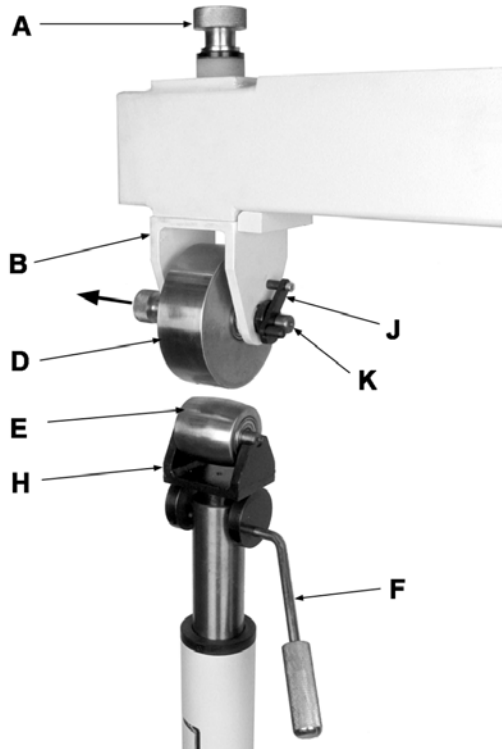

Figure 4
Refer to Figure 4.
1. Disengage the *quick release lever* (F, Figure 4) and lower the *lower wheel bracket* (H, Figure 4) until there's sufficient clearance.
2. Remove the *lower wheel* (E, Figure 4) and replace it with another one.